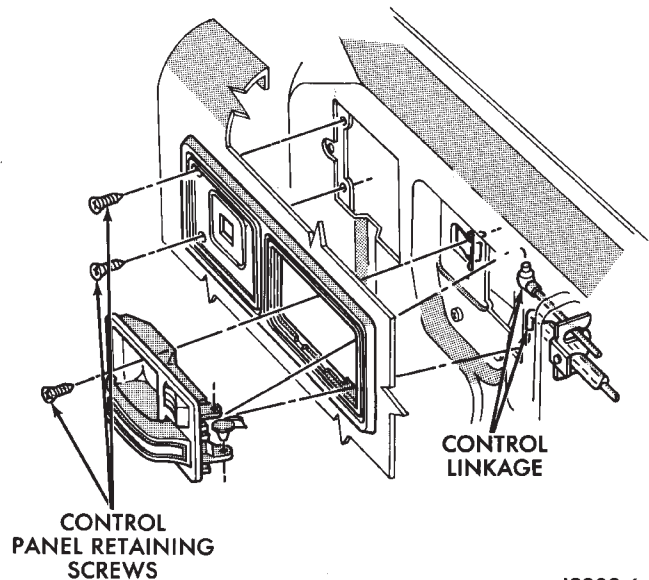

Fig. 79 Front Door Inside Latch Release Handle
- (1) Remove the door inside latch release handle screws (Figs. 79 and 80).